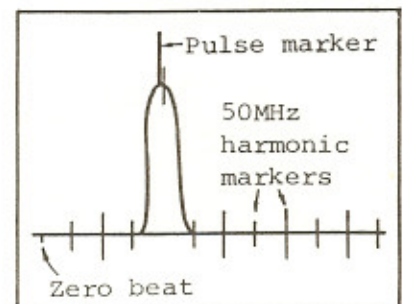

Figure 6-3 (b)
- (5) Set FUNCTION switch (8) to ΔF. The frequency set in (4) is fixed as the center frequency. [Figure 6-3 (c)]
- (6) Turn STOP/WIDTH control (11) for the best possible view of the waveform being displayed. Turn on the 10MHz marker, 1MHz marker, or OPTION marker as required.
- (7) When the frequency range to be observed is fixed, set FUNCTION switch (8) to S/S, the lower limit frequency to be observed to S/S by using START/CENTER control (6), and set the upper limit by using STOP/WIDTH control (11) before beginning frequency range measurement.